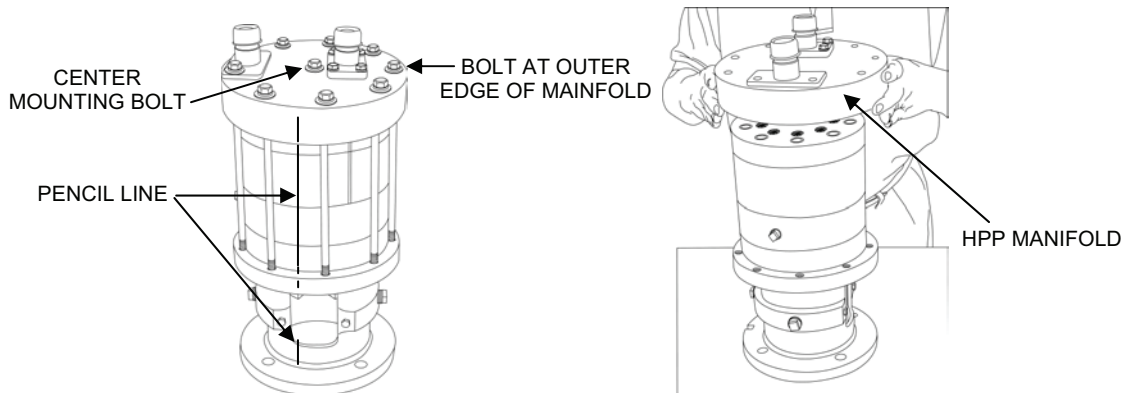

Figure 3. High Pressure Pump Manifold Removal.
- d. Stand the high-pressure pump up on its mounting flange (see Figure 3).